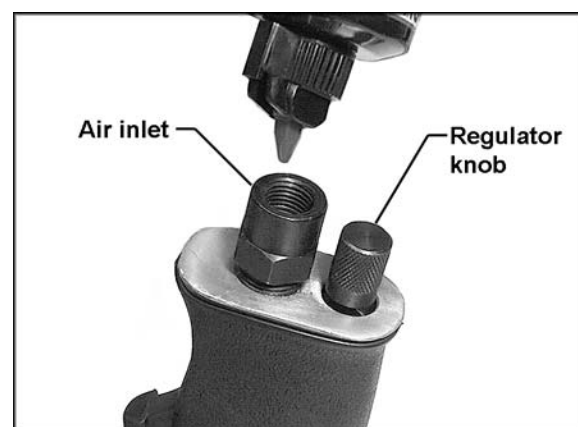

Figure 2
4. Press the blade of the chisel against the target surface, and press the trigger to begin the hammering action. Adjust the speed as needed with the regulator knob (Figure 2).
2. Place one or two drops of air tool oil* into the air inlet (Figure 2).